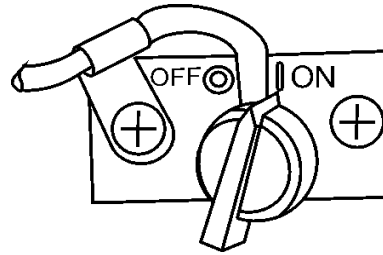

Figure 7. ON/OFF Switch (ON Position)
2. Set the engine ON/OFF switch (Figure 7) to the "ON" position (start).